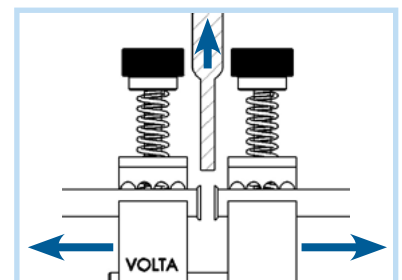

Fig. 18
7. Open the pliers quickly and pull welder away (Fig. 18).